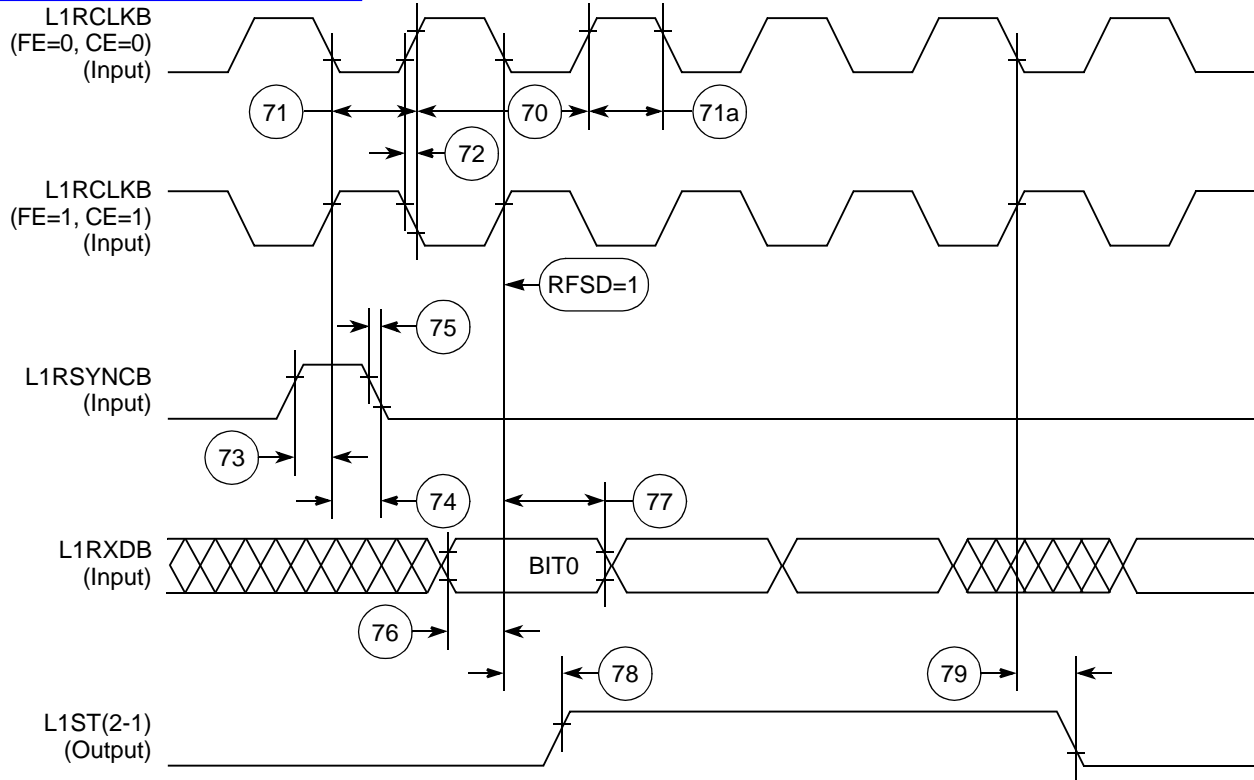
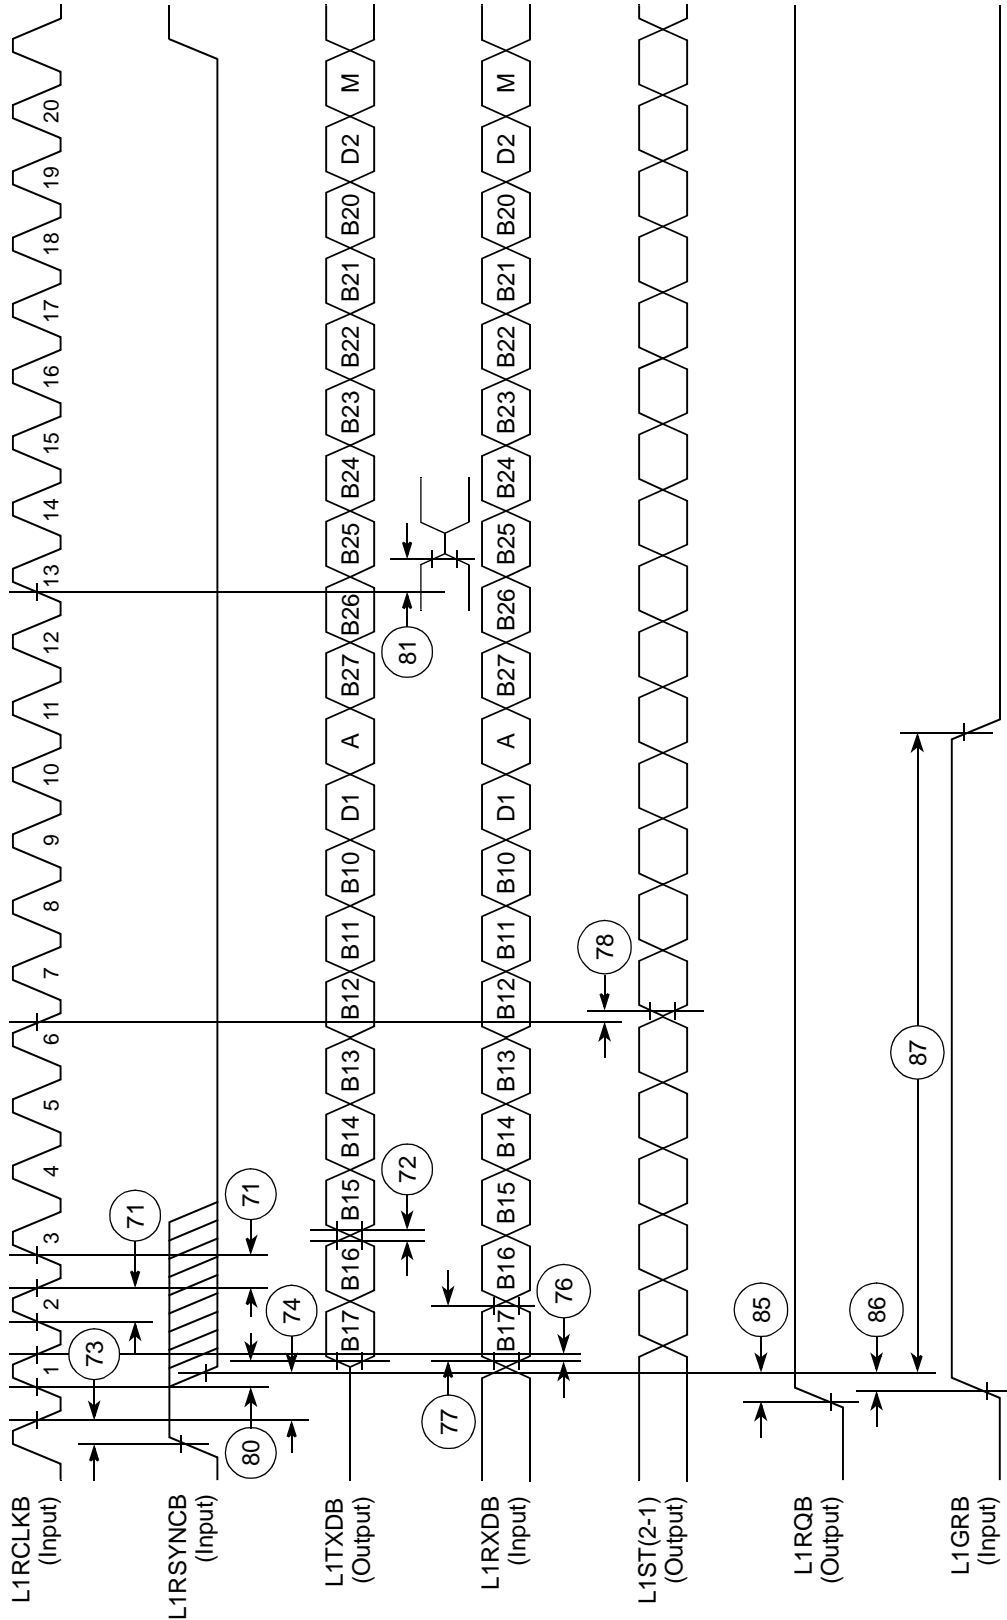

Figure 47. SI Receive Timing Diagram with Normal Clocking (DSC = 0)
Figure 51. IDL Timing
Table 21 provides the serial interface (SI) timings as shown in Figure 47 to Figure 51.